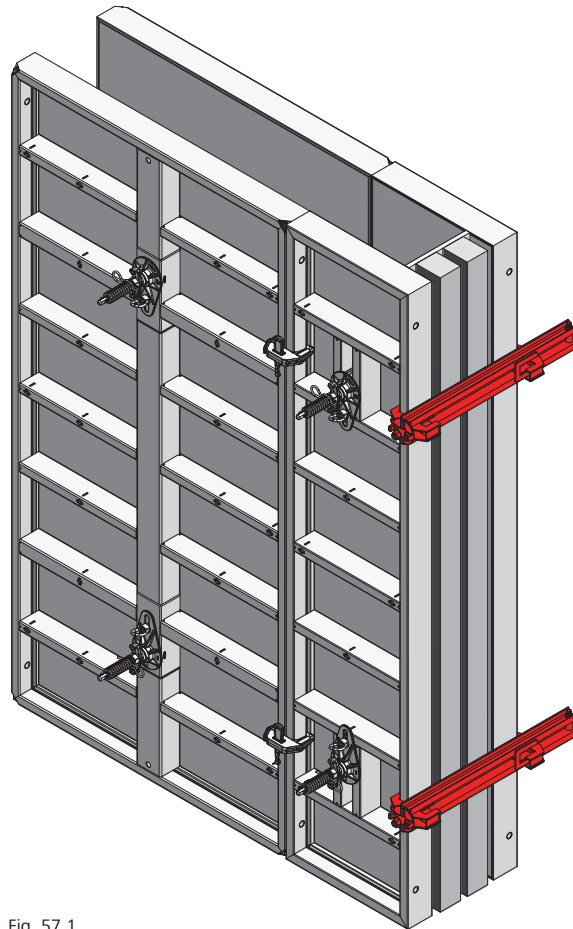

Fig. 57.1
- It is attached at the height of the tie holes (Fig. 57.1).